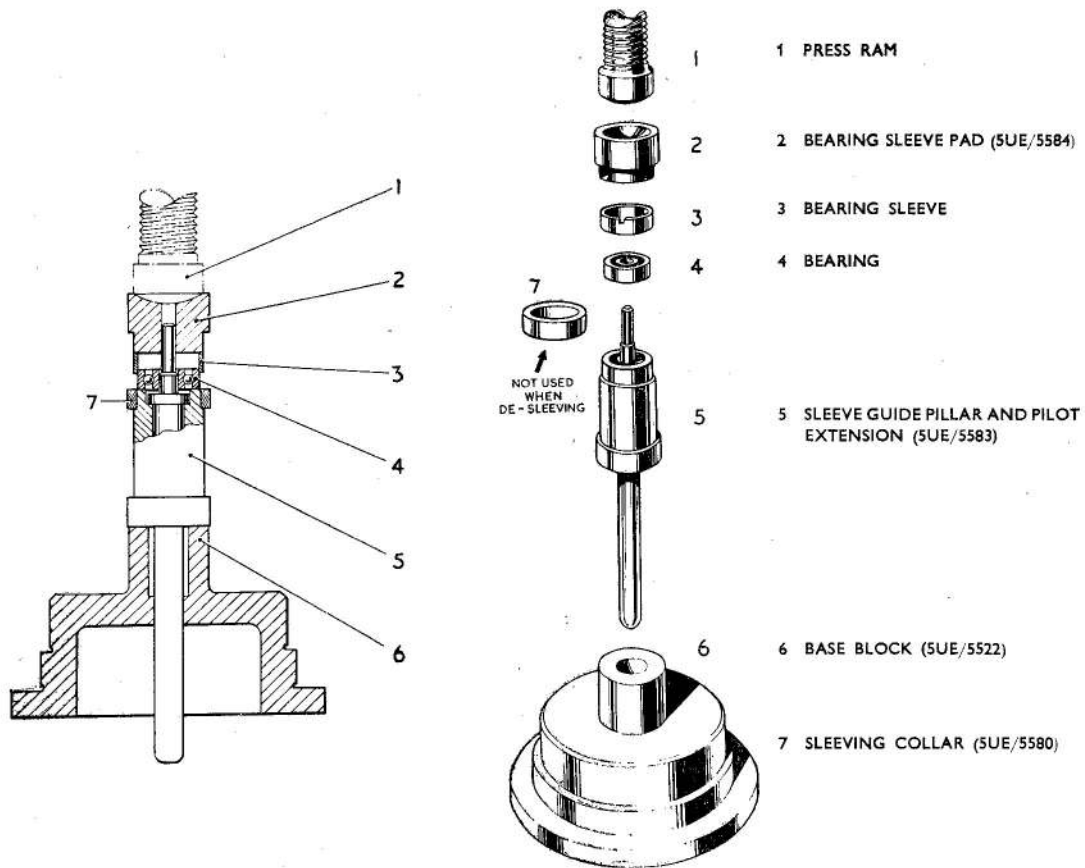

Fig. 7. Tools for re-sleeving upper bearing
(2) Refer to "Schedule of fits and clearances" (App. 1 of this chapter)
21. In instances where it has been necessary to fit a new commutator end ball bearing, and/or sleeve, make sure that the slot in the bearing sleeve registers with the metal of the casing which has been peened in to prevent rotation in the housing. Fig. 7 shows the tools for resleeving the bearing.